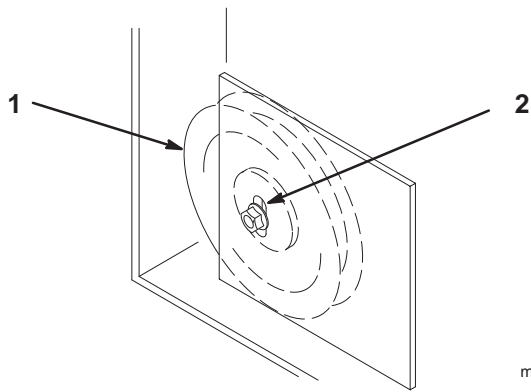

Figure 65
7. If an adjustment is required, loosen the fixed idler on the right support plate and move it up or down in the adjustment slot (Fig. 65). To relieve the belt tension, lift up on the spring loaded idler.